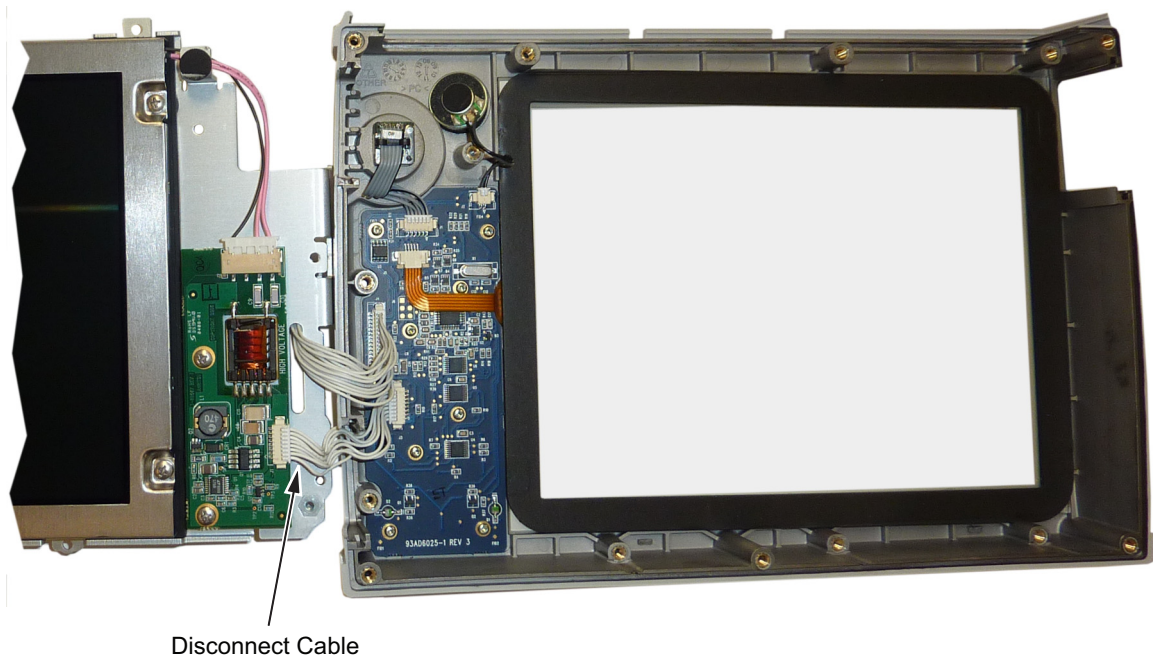

Figure 5-13. Replacing the LCD Assembly
4. Turn the LCD assembly over and disconnect the front half of the case from the LCD assembly (Figure 5-13).